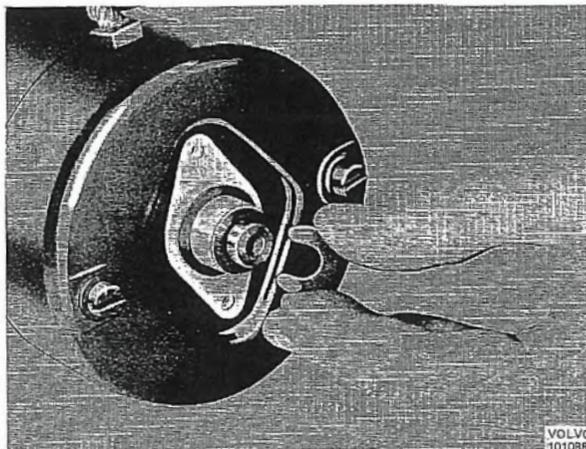

Fig. 3-57. Removing lock washer
2. Lift off the lock washer and adjusting washers as shown in Figs. 3-57 and 3-58.